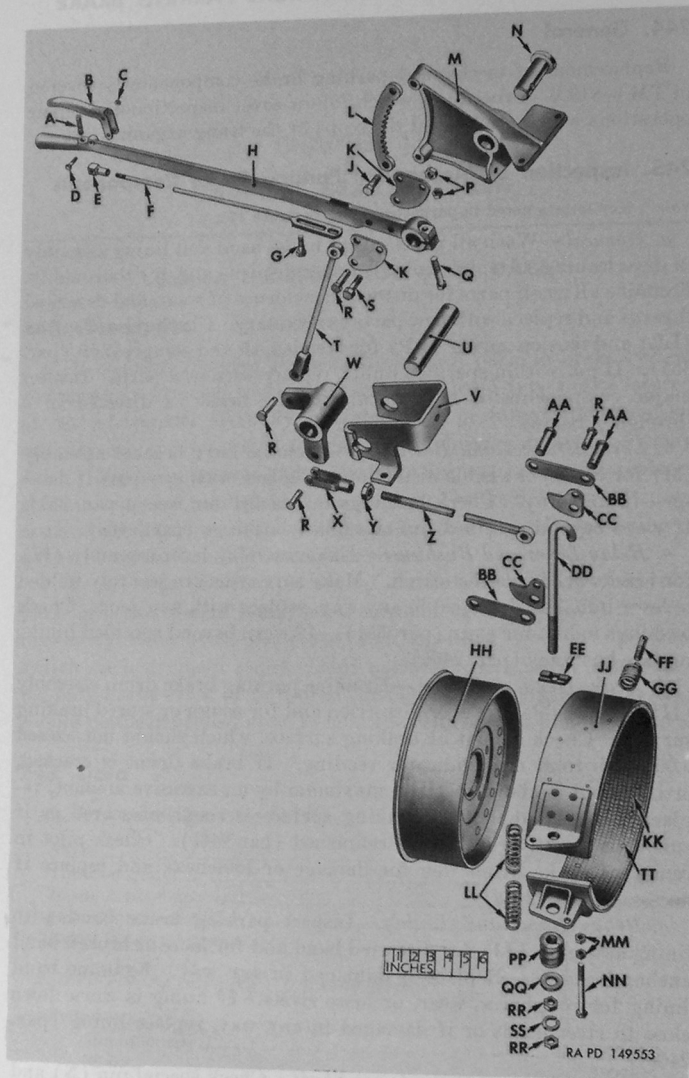

Figure 173. Mechanical parking brake components.
*Note.* Key letters noted in parentheses are in figure 173.
*a. General.*—Wash all parts except brake band and lining assembly in dry-cleaning solvent or volatile mineral spirits and dry thoroughly. Examine all small parts for distortion, evidence of wear, and damaged threads and replace with new parts as necessary. Check release spring (LL) and tension spring (PP) for free length and compression (par. 351). If not within specified limits, replace with new parts. Inspect major components of mechanical parking brake as directed in *b* through *f* below.
*b. Lever Bracket and Bushings.*—Examine lever bracket assembly (M) for cracks or visible distortion. Replace with new part if damaged in any way. Check bushings in bracket for wear (par. 351). If worn beyond specified limits, replace bushings (par. 246*a*).
*c. Relay Lever and Bushings.*—Examine relay lever assembly (W) for cracks or visible distortion. Make sure arms are securely welded to lever hub. If damaged in any way, replace with new part. Check bushings in hub for wear (par. 351). If worn beyond specified limits, replace bushings (par. 246*b*).
*d. Brake Drum and Pilot.*—Examine parking brake drum assembly (HH) for visible cracks or distortion and for rough or scored braking surface. Check runout of braking surface, which should not exceed 0.005-inch total dial indicator reading. If brake drum is cracked, or if runout is above specified maximum by an excessive amount, replace drum assembly. If braking surface is rough or scored or if runout is slight, drum can be refinished (par 246*c*). Check pilot in center of brake drum web for damage or looseness, and replace if necessary (par 246*d*).
*e. Brake Band and Lining.*—Inspect parking brake band with lining assembly (JJ) for distorted band and for loose or broken band anchor brackets. Replace if damaged in any way. Examine band lining for roughness, wear, or loose rivets. If lining is worn down close to rivet heads or if damaged in any way, replace lining (par. 246*e*).
*f. Special Pin and Relay Lever Shaft.*—Check special pin (N) and relay lever shaft (U) for wear at bearing contact area (par. 351). Replace with new parts if not within specified limits.